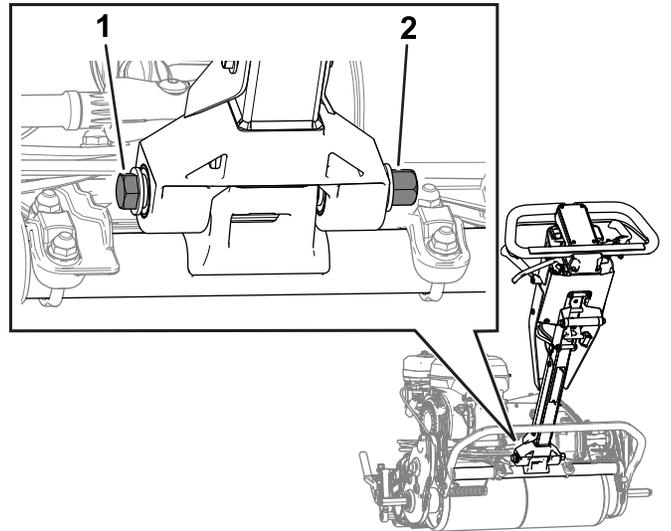

Figure 43
2. Loosen the bolt and nut as shown in Figure 43.